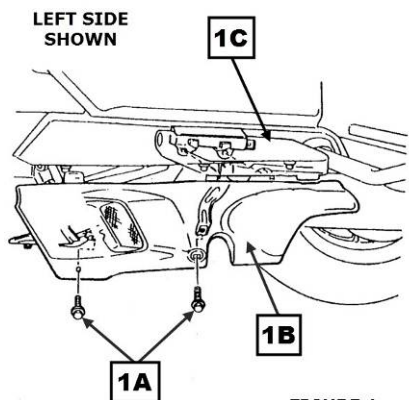

FIGURE 1
2. STARTING ON THE LEFT SIDE. REMOVE THE LOWER SIDE COVER (1B) LOCATED RIGHT BELOW THE PASSENGER FOOTRESTS (1C) BY REMOVING THE BOLTS (1A) WITH AN 8MM WRENCH. (SEE FIGURE 1)